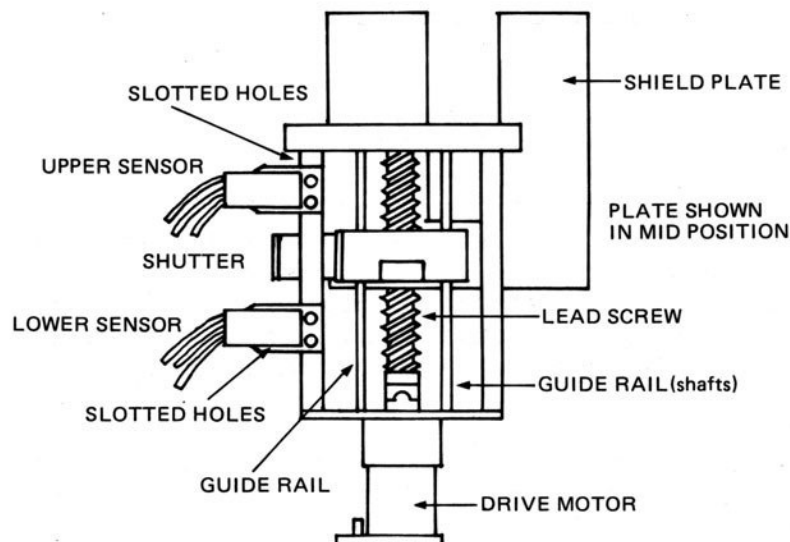

Figure 10-1. Head shield position adjustment.
Refer to Figure 10.1. The upper and lower sensor assembly positions can be adjusted slightly after loosening the respective phillips head screws.
2. Using a lint-free cloth, wipe off the screw (worm) shaft in the center of the head shield mechanism, and the two smaller guide shafts on either side of that screw (Figure 10-1). To again access to all areas of these parts, turn the power on, place the transport in Stop mode, and operate the SHIELD button.